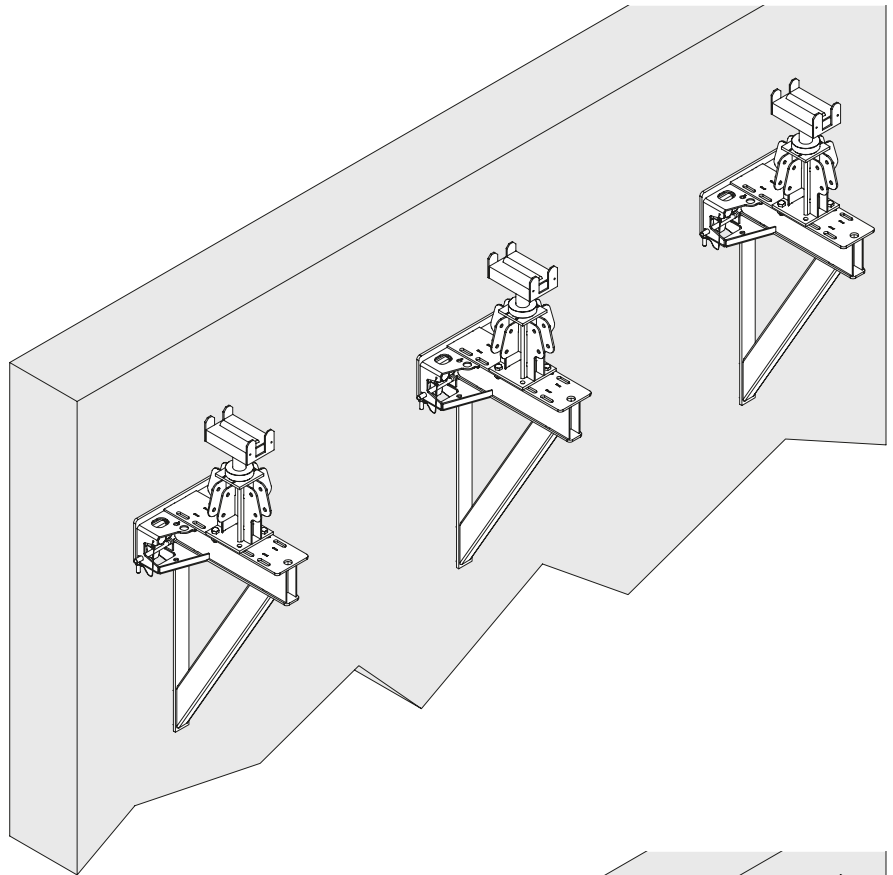

Fig. D2.11
1. Repeat the procedure for every Main Beam Bracket Alpha. (Fig. D2.11)